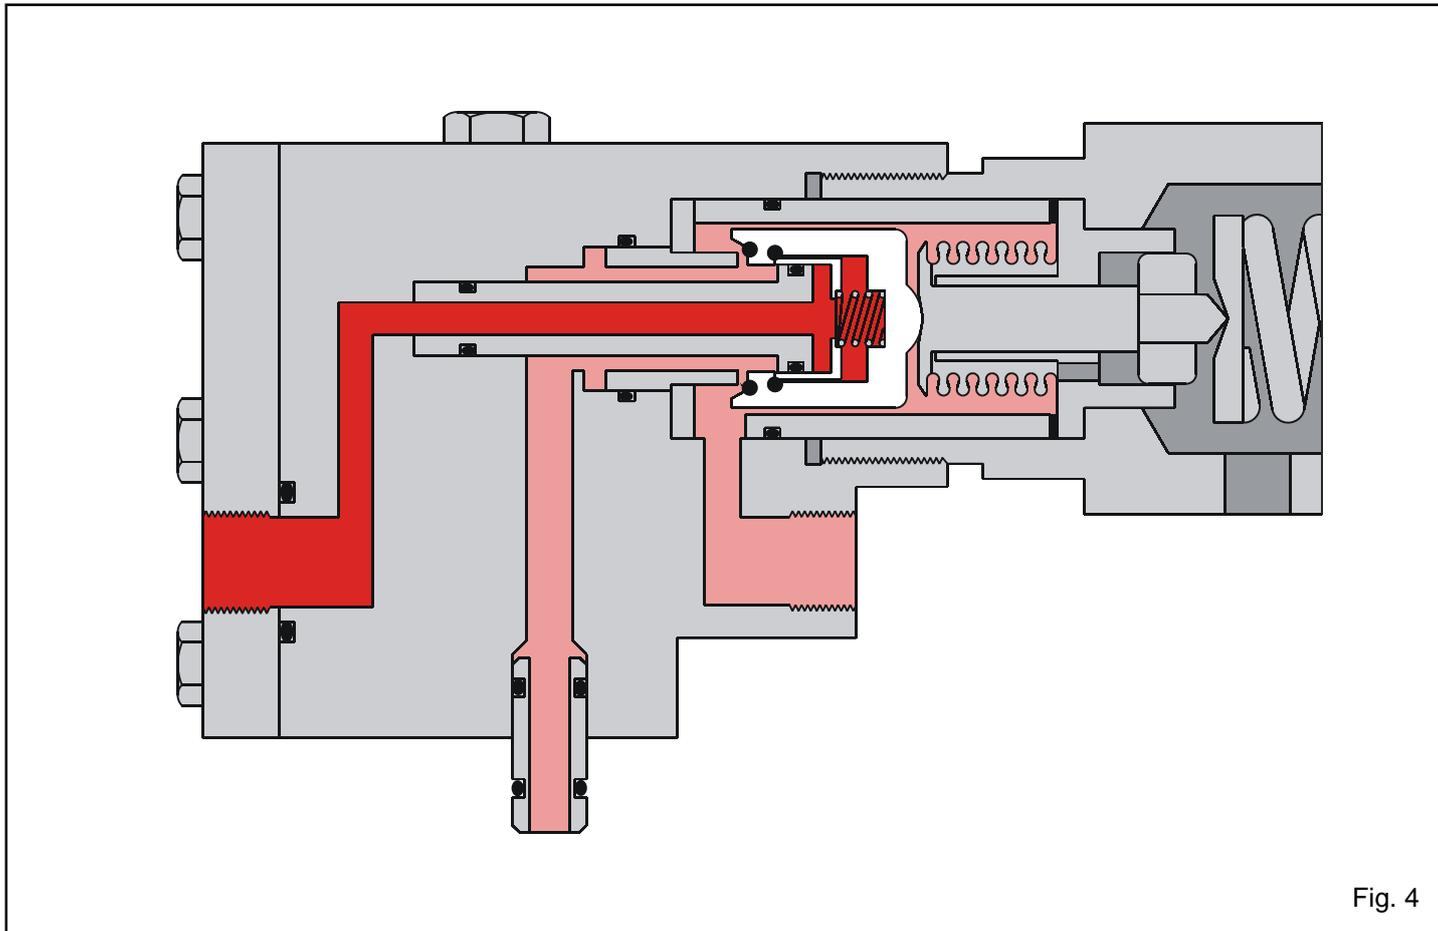

Fig. 4
Se la pressione aumenta ancora l'otturatore secondario e quello principale si allontanano dal bocchaglio e parte del fluido contenuto nella camera di pressione viene scaricata (Fig. 4).
*If the pressure continues to rise the main and secondary discs move away from the nozzle and part of the medium contained in the valve chamber is released (Fig. 4). The valve lift changes. The discharged flow rate tends to become equal to the flow rate generated by the process.*